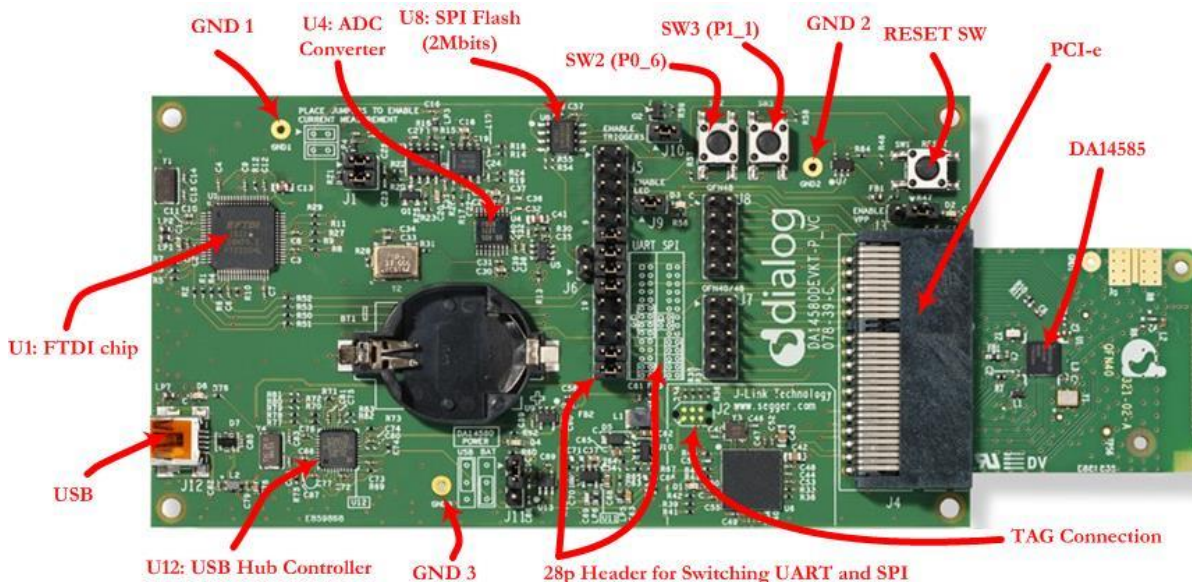

Figure 5: DA14585/586 Board Layout
The layout of the boards is displayed in Figure 5.
- **The ProDev Kit is connected to the host PC over the connector marked as USB (J12), as shown in Figure 5 using a standard mini-USB cable.**
1. Connect the ProDev Kit board to the PC via USB cable. The location of the board's USB port is shown in **Figure 5**.